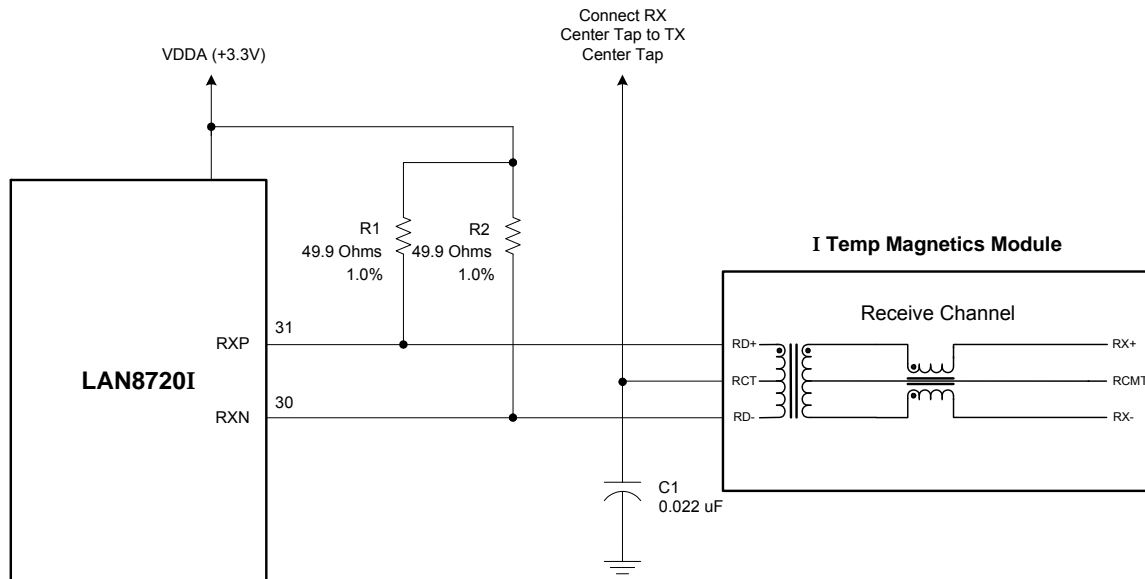

Figure 2 – Receive Channel Connections and Terminations
6. For receive channel connection and termination details, refer to Figure 2.